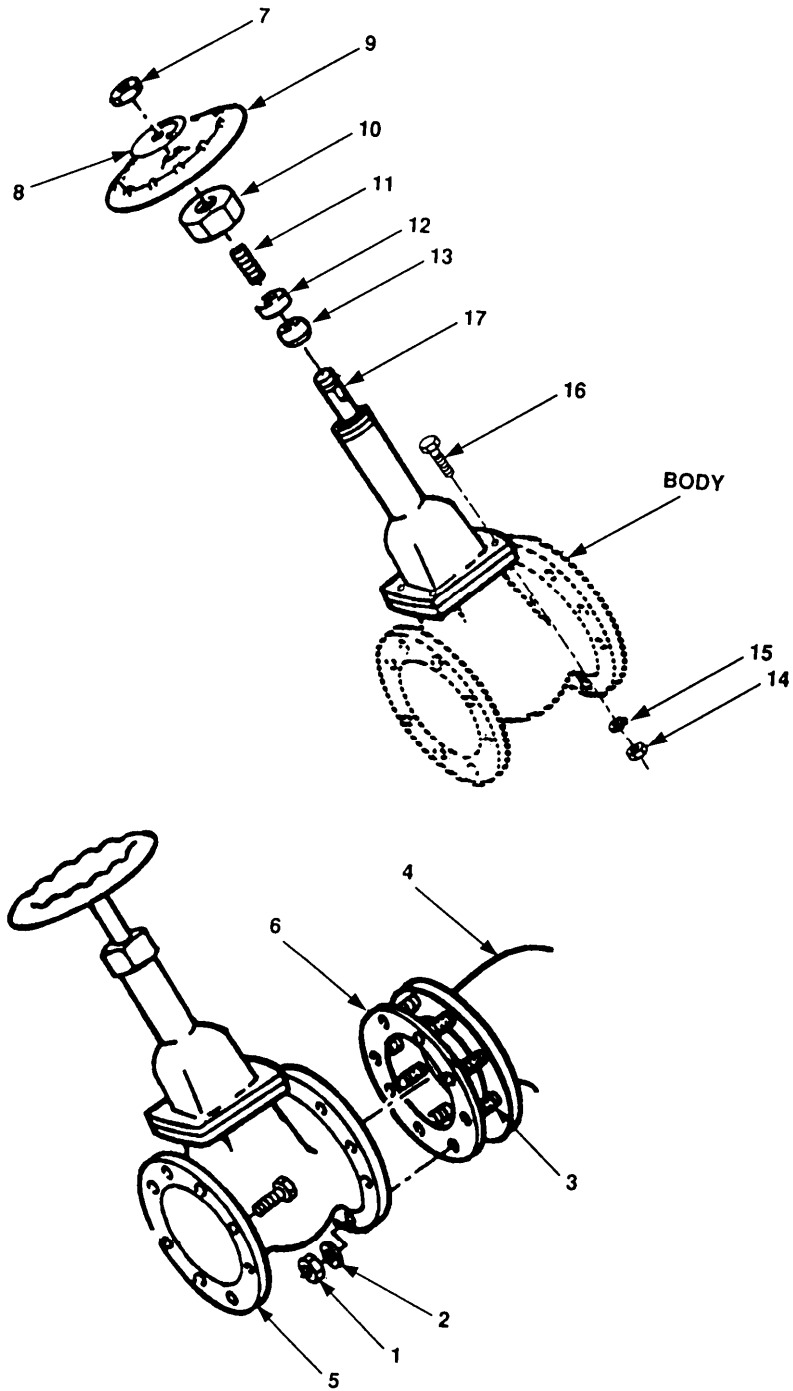

Figure 4-52. Gate Valve Maintenance.
- a. Remove eight nuts (figure 4-52, 1) and eight lockwashers (2) from studs (3) on manifold (4).
- b. Remove gate valve (5).
- c. Remove and discard gasket (6).